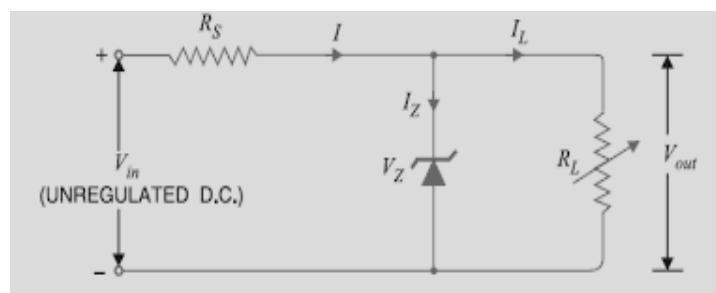

Fig.3.5 Zener diode as voltage regulator
1. For finding load regulation, make connections as shown in the Fig. 3.5.